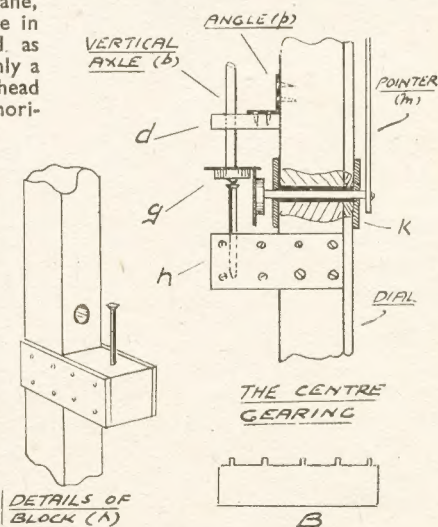

Fig. 2—Gearing and mechanism
A more durable bearing can be made by lining the hole in the wood with tin. This is done by cutting a piece of tin the same length as the circumference of the hole and as deep as the thickness of the wood—a few small tabs as shown in (B) Fig. 2 being left on top. The tin is then bent so that it springs into the hole and the tabs bent over. The dowel, however, should still be rubbed with black lead.